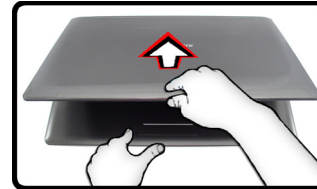

Figure 1 - Computer with AC/DC Adapter Plugged-In
5. Use one hand to raise the lid/LCD to a comfortable viewing angle (do not exceed 120 degrees); use the other hand (as illustrated in Figure 1) to support the base of the computer (**Note: Never** lift the computer by the lid/LCD).